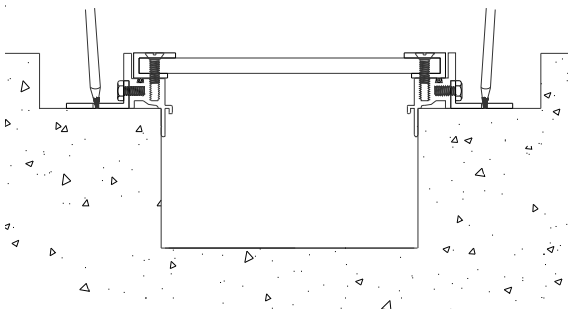

Figure 4
STEP 4. Place the assembled trench cover into its installed position in the blockout. Ensure that the trench cover assembly is in the proper position (level, the proper width, at the proper elevation, flush with the finished floor, and properly aligned and configured). Using the trench cover system as a template, mark the locations for the anchor holes on the substrate, see Figure 4. Remove the trench cover system from its installed position, and drill the anchor holes into the substrate at the marked locations.